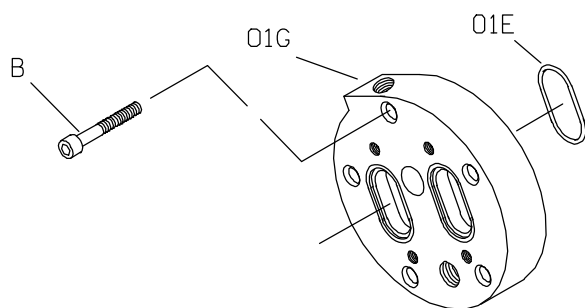

Figure E-2. Typical Head Jacket Assembly
If your pump is equipped with an optional head jacket, see Figure E-2 and remove the capscrews (B) securing the head jacket (01G) and O-rings (01E) to the head assembly (01A, Figure E-1). Refer to Jacket Option Appendix H for Inlet and outlet location.
If your pump is equipped with an optional head jacket, see Figure E-2 and install the O-rings (01E) in the grooves in the head (Figure 1, 01A).